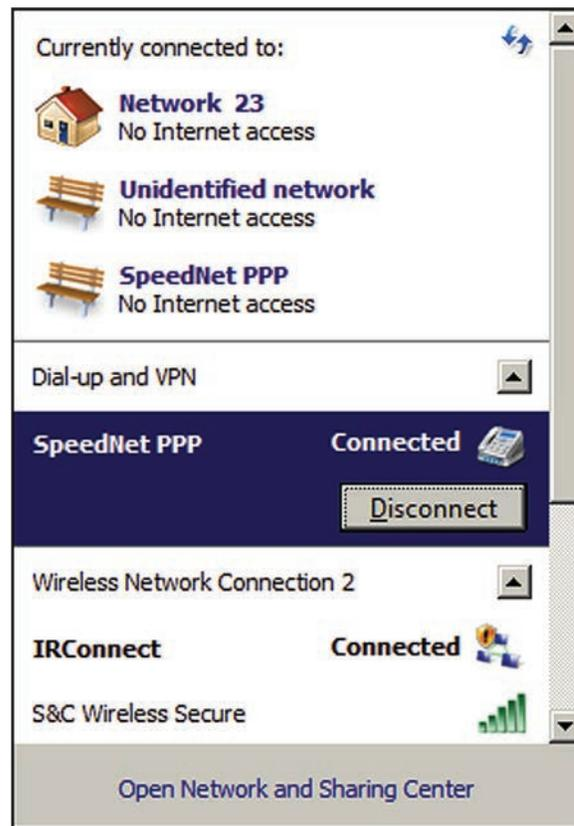

Figure 26. The Open Network and Sharing Center dialog box.
- STEP 8.** After SpeedNet Radio configuration is complete and before you close the LinkStart software, close the PPP session. Go to the Open Network and Sharing Center dialog box, click on the “SpeedNet PPP” entry, and click on the **Disconnect** button. See Figure 26.